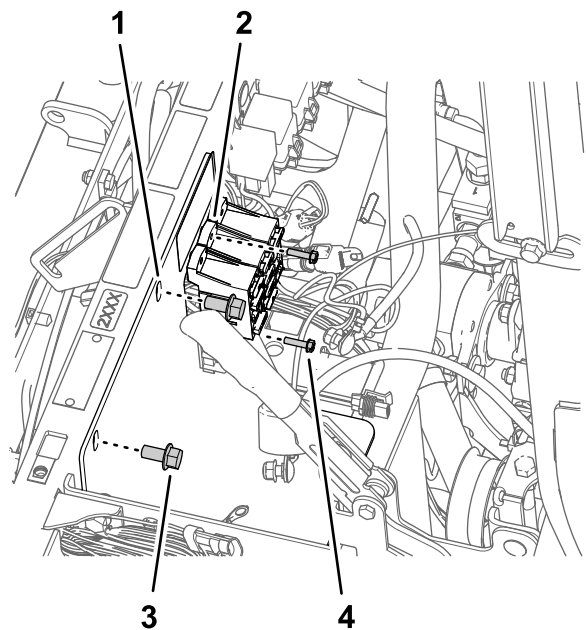

Figure 170
3. Remove the bolts (10-24 x 3/4 inch) and nuts (10-24) that secure the fuse blocks to the battery bracket (Figure 170).
4. Remove the 2 flange-head bolt (3/8 x 3/4 inch) that battery bracket to the shock-support tube of the machine (Figure 170).